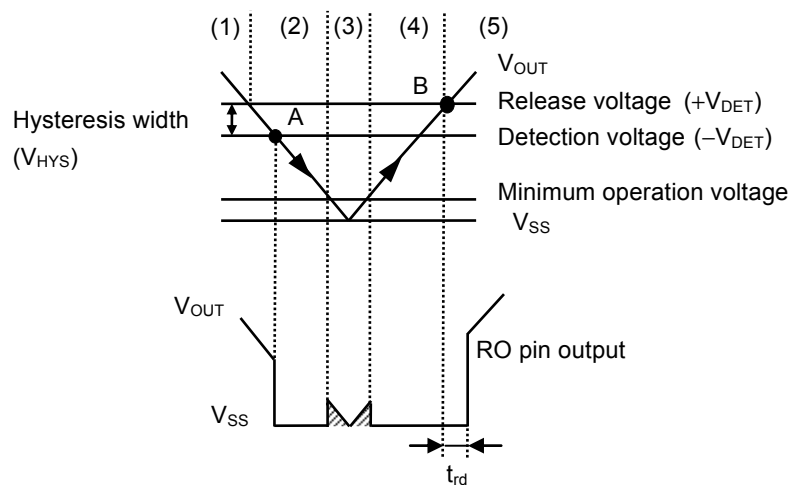

Figure 19 Timing Chart of Detector Block
- (1) When the output voltage (V_{OUT}) of the regulator is release voltage ($+V_{DET}$) of the detector or higher, the Nch transistor (N1 and N2) are turned off and "H" is output to the RO pin. Since the Pch transistor (P1) is turned on, the input voltage to the comparator (C1) is $\frac{R_B \cdot V_{OUT}}{R_A + R_B}$.
- (2) Even if V_{OUT} decreases to $+V_{DET}$ or lower, "H" is output to the RO pin when V_{OUT} is the detection voltage ($-V_{DET}$) or higher. When V_{OUT} decreases to $-V_{DET}$ (point A in **Figure 19**) or lower, N1 which is controlled by C1 is turned on, and C_{DLY} is discharged. If the DLY pin voltage (V_{DLY}) decreases to the lower reset timing threshold voltage (V_{DRL}) or lower, N2 of output stage of C2 is turned on, and then "L" is output to the RO pin. At this time, P1 is turned off, and the input voltage to C1 is $\frac{R_B \cdot V_{OUT}}{R_A + R_B + R_C}$.
- (3) If V_{OUT} further decreases to the IC's minimum operation voltage or lower, the RO pin output is "H".
- (4) When V_{OUT} increases to the IC's minimum operation voltage or higher, "L" is output to the RO pin. Moreover, even if V_{OUT} exceeds $-V_{DET}$, the output is "L" when V_{OUT} is lower than $+V_{DET}$.
- (5) When V_{OUT} increases to $+V_{DET}$ (point B in **Figure 19**) or higher, N1 is turned off and C_{DLY} is charged. N2 is turned off if V_{DLY} increases to the upper timing threshold voltage (V_{DU}) or higher, and "H" is output to the RO pin.